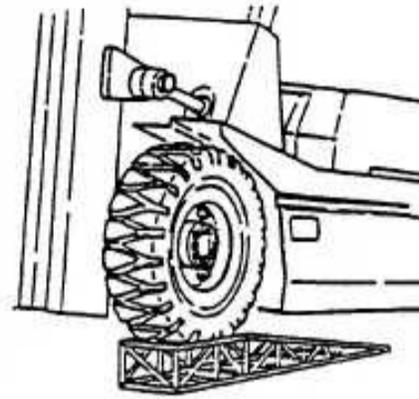

Fig 7.6
7.2.4 Replace rollers (Fig7.6)